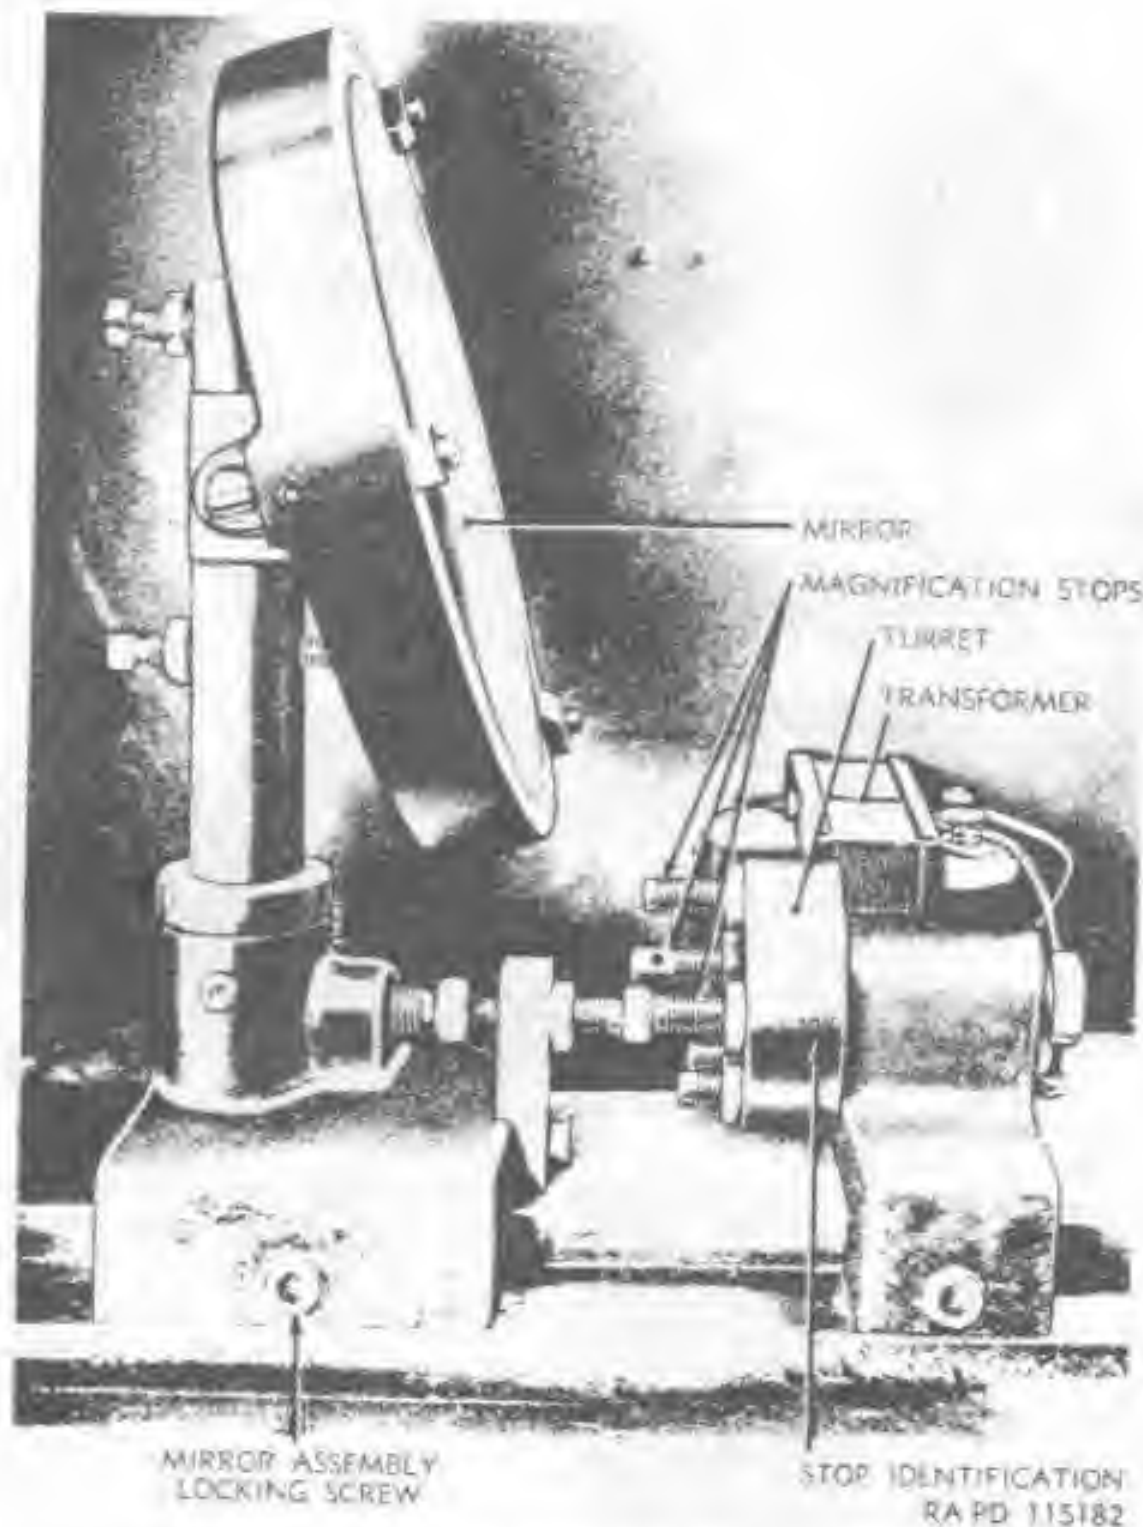

Figure 118. Mirror and turret with magnification stops.
**Caution:** The line voltage must be 110 volts at 60 cycles, as specified on the name plate at the rear of the comparator; otherwise, the transformer (fig. 118) may be burned out.
- (2) Adjustment consists of locating the mirror assembly with respect to the proper magnification stop.
- (3) To move the mirror assembly, loosen the mirror assembly locking screw (fig. 118) with a  $\frac{5}{16}$ -inch socket-head set screw wrench and locate the assembly in a position engaging the proper magnification stop. Tighten the locking screw.
- (4) The setting of the magnification stop for either projection lens may be checked by measuring the shadow image on the screen of a test pin which is brought into focus before the projection lens. The width of the shadow image received on the screen must be exactly the width of the test pin multiplied by the number of magnifications of the projection lens.
- (5) To adjust the magnification, move the mirror assembly as described in (3) above until the shadow image of the test pin is exactly the right size. Move the mirror assembly toward the projection lens to decrease the size of the shadow image or away from the projection lens to increase the size of the shadow image. When the size of the shadow image on the screen is exactly right, tighten the mirror assembly locking screw.
- (6) In the event that the adjustment of the magnification (5) above shows the corresponding stop to be wrongly positioned, the stop should be readjusted to its proper location. To do this, loosen the jam nut on the stop stud and screw the stop stud in or out of the turret as required. Hold the stop stud securely in its correct position and tighten the jam nut.